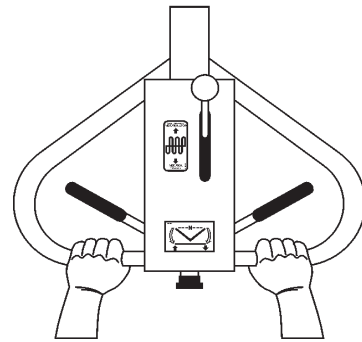

Figure 27. Forward and Reverse Control Levers
1. With the engine running, both directional and speed control levers (Figure 27) should be in their neutral positions.